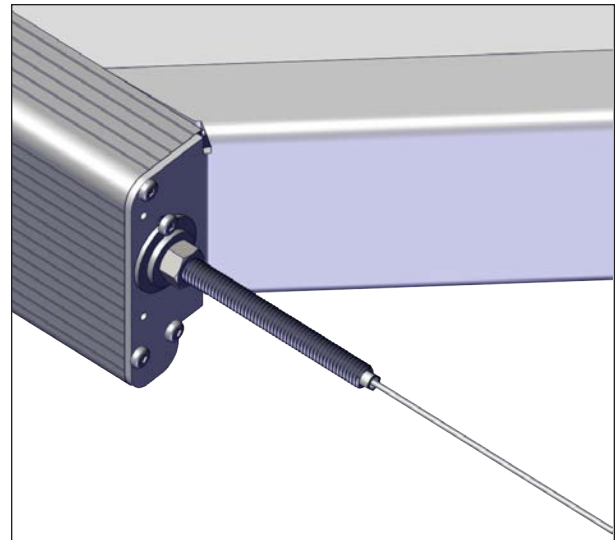
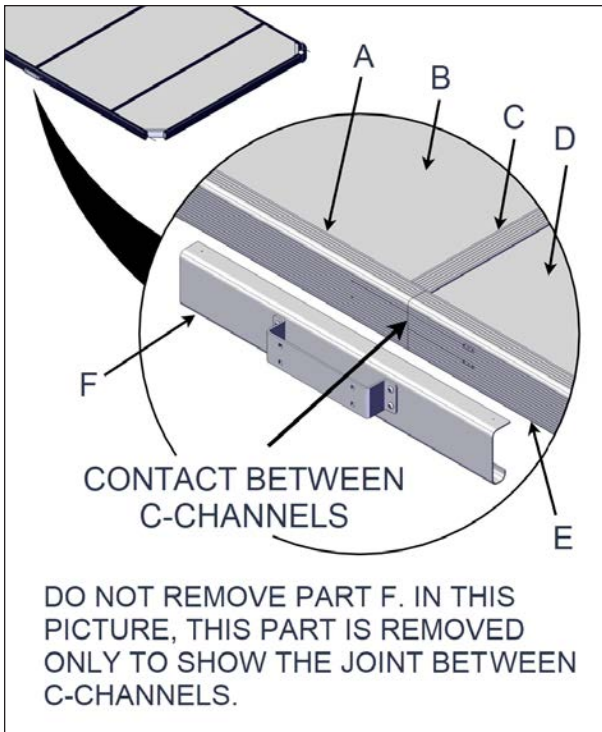

FIGURE 51: WIRE TIGHTENING
FIGURE 52: GAP BETWEEN THE C-CHANNELS
panels on the I- beams. Tighten simultaneously the 4 hex. nuts by keeping the same number of turns to avoid that mobile parts get stuck on the C-channels (Figure 51) and check the gap between the C-channels, see Figure 52.
2. Repeat the process again and again until the short and long C-channels touch each other, see Figure 52.